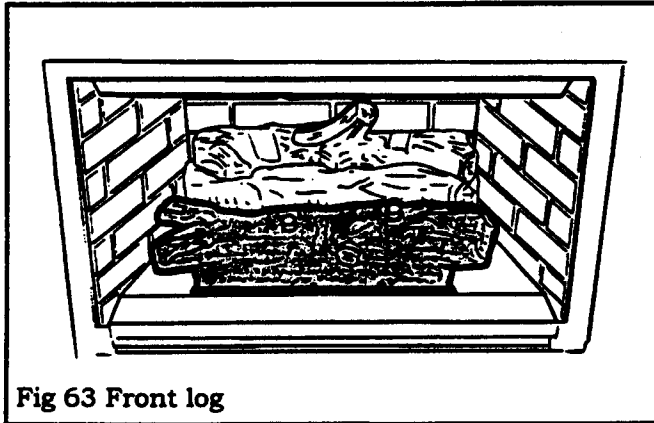

Fig 63 Front log
18.5 Place the front log in the opening of the firebox base cover. Slide the log forward as far as it will go (fig. 63).